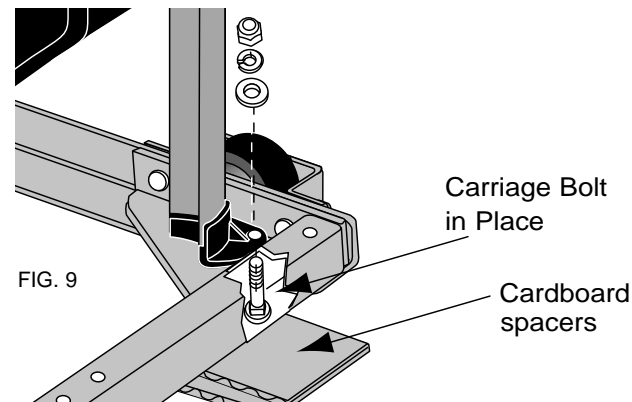

FIG. 9
**STEP 10. Add bolts and spacers under base. (Fig. 9).**
STEP 12. Secure base to saw (Fig. 9).